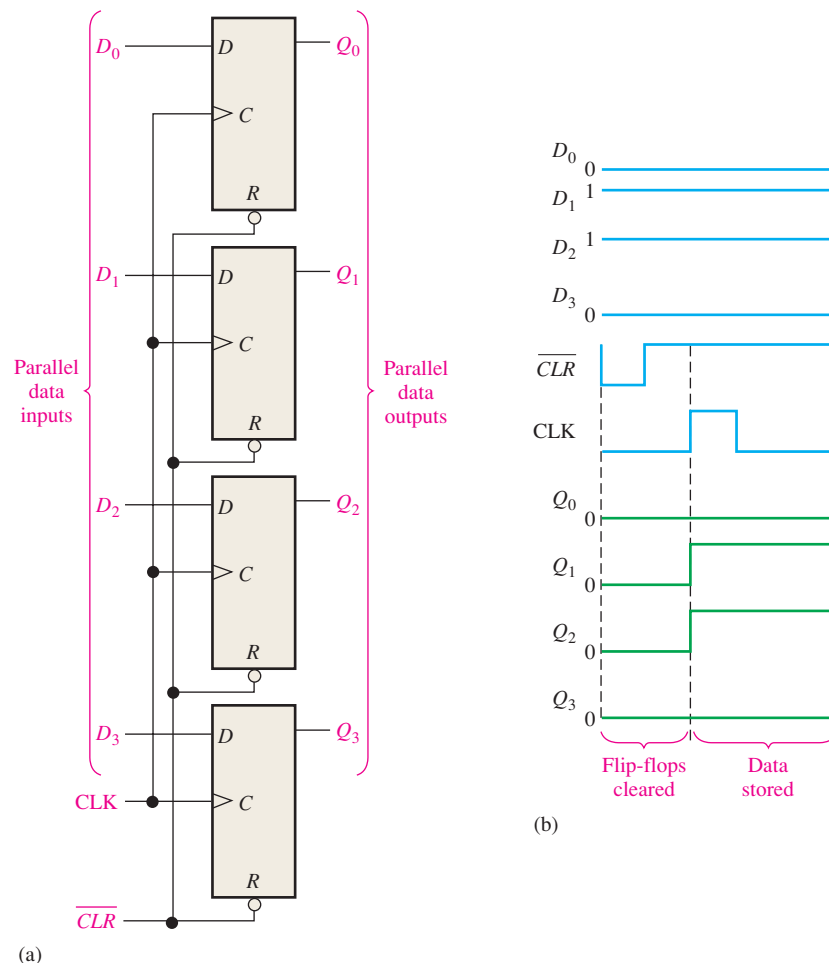

FIGURE 7–35 Example of flip-flops used in a basic register for parallel data storage.
1. Propagation delay t_{PLH} as measured from the triggering edge of the clock pulse to the LOW-to-HIGH transition of the output. This delay is illustrated in Figure 7–31(a).
2. Propagation delay t_{PHL} as measured from the triggering edge of the clock pulse to the HIGH-to-LOW transition of the output. This delay is illustrated in Figure 7–31(b).
3. Propagation delay t_{PLH} as measured from the leading edge of the preset input to the LOW-to-HIGH transition of the output. This delay is illustrated in Figure 7–32(a) for an active-LOW preset input.
4. Propagation delay t_{PHL} as measured from the leading edge of the clear input to the HIGH-to-LOW transition of the output. This delay is illustrated in Figure 7–32(b) for an active-LOW clear input.
The **set-up time** (t_s) is the minimum interval required for the logic levels to be maintained constantly on the inputs (J and K , or D) prior to the triggering edge of the clock pulse in order for the levels to be reliably clocked into the flip-flop. This interval is illustrated in Figure 7–33 for a D flip-flop.
A common requirement in digital systems is to store several bits of data from parallel lines simultaneously in a group of flip-flops. This operation is illustrated in Figure 7–35(a) using four flip-flops. Each of the four parallel data lines is connected to the D input of a flip-flop. The clock inputs of the flip-flops are connected together, so that each flip-flop is triggered by the same clock pulse. In this example, positive edge-triggered flip-flops are used, so the data on the D inputs are stored simultaneously by the flip-flops on the positive edge of the clock, as indicated in the timing diagram in Figure 7–35(b). Also, the asynchronous reset (R) inputs are connected to a common \overline{CLR} line, which initially resets all the flip-flops.
Another application of a flip-flop is dividing (reducing) the frequency of a periodic waveform. When a pulse waveform is applied to the clock input of a D or J-K flip-flop that is connected to toggle ($D = \bar{Q}$ or $J = K = 1$), the Q output is a square wave with one-half the frequency of the clock input. Thus, a single flip-flop can be applied as a divide-by-2 device, as is illustrated in Figure 7–36 for both a D and a J-K flip-flop. As you can see in part (c), the flip-flop changes state on each triggering clock edge (positive edge-triggered in this case). This results in an output that changes at half the frequency of the clock waveform.
Further division of a clock frequency can be achieved by using the output of one flip-flop as the clock input to a second flip-flop, as shown in Figure 7–37. The frequency of the Q_A output is divided by 2 by flip-flop B. The Q_B output is, therefore, one-fourth the frequency of the original clock input. Propagation delay times are not shown on the timing diagrams.